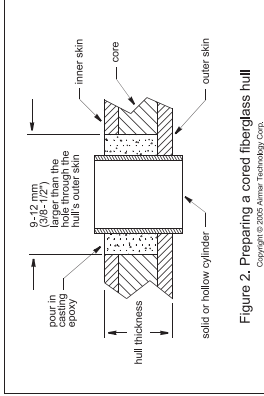

Figure 2. Preparing a cored fiberglass hull
- Using the 21mm or 7/8" drill bit, cut a hole from outside the hull through the outer skin only (see Figure 2).